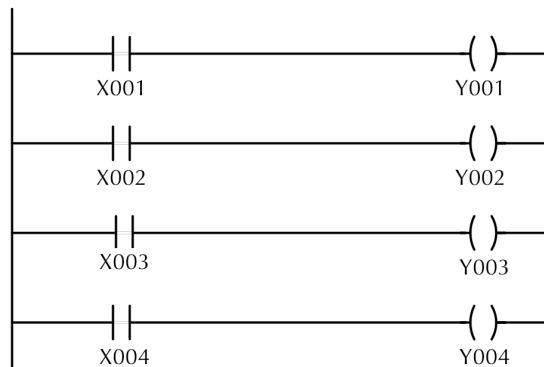

Figure 7.11: Digital Input and Output
- 2. Launch the CLICK programming software by opening the program file *Ladder-1.ckp* found in the *PLC Lab Exercises* folder on the desktop. This file contains the program shown in Figure 7.11